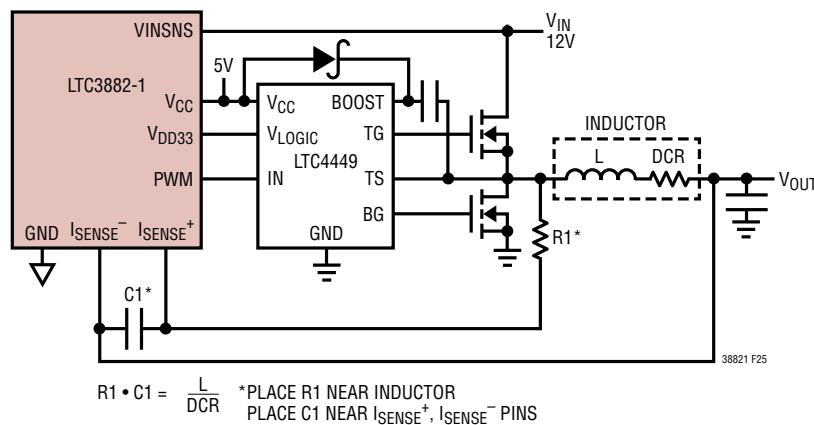

Figure 25. Inductor DCR Output Current Sense
5. Place the output current sense resistor (if used) immediately adjacent to the inductor output. PCB traces for remote voltage and current sense should be run together back to the LTC3882-1 in pairs with the smallest spacing possible on any given layer on which they are routed. Avoid high frequency switching signals and ideally shield with ground planes. Locate any filter component on these traces next to the LTC3882-1, and not at the Kelvin sense location. However, if DCR sensing is used, place the top resistor (R1, Figure 25) close to the switch node.
To maximize efficiency at full load the LTC3882-1 is designed to sense current through the inductor's DCR, as shown in Figure 25. The DCR of the inductor represents the small amount of DC winding resistance of the copper, which